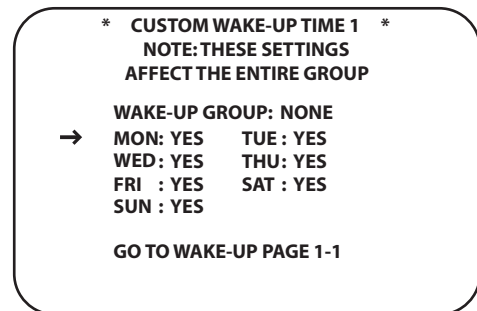

Figure 72.
- To configure a custom schedule, with the cursor next to **WHEN**, press the **◀/▶ Navigation Button 16** until **CUSTOM** appears on screen. Press the **Set Button 18**. The **CUSTOM WAKE-UP TIME 1** screen will appear (**Figure 72**).